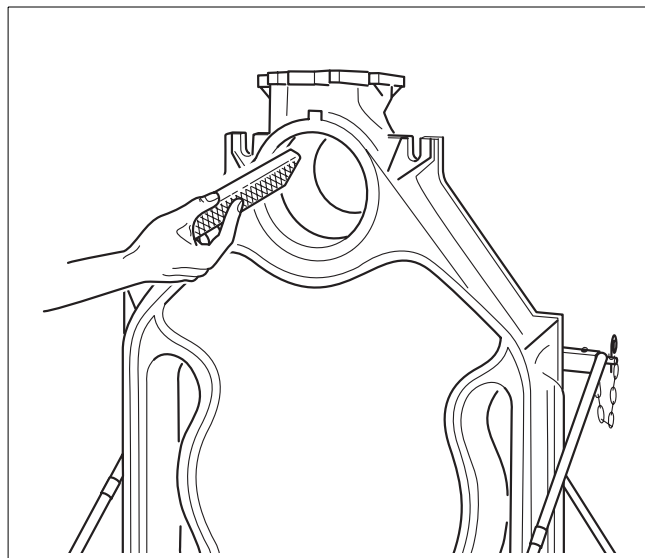

Fig. 9 Filing down burrs
- File down any burrs which there may be in the nipple ports (Fig. 9).
- File down any burrs there may be in the nipple ports (as shown in Fig. 9).